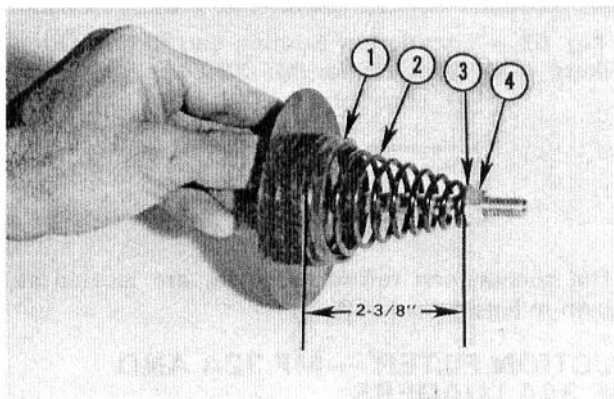

Fig. 58 — Oil Filter Bypass Assembly
3. Check that bypass spring is installed on bolt to dimension shown in Fig. 58 ... make sure that nut is staked to bolt threads.